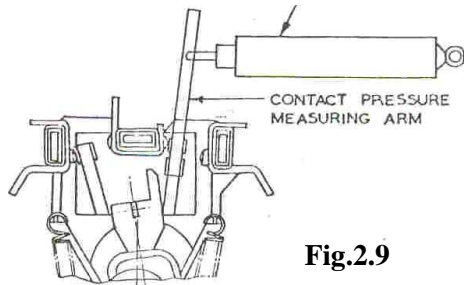

Fig.2.9
- Place the measuring arm on the contact finger and fit the spring balance in it as shown in fig. 2.9. Pull the spring balance until the contact fingers first breaks away from the stationary contact.